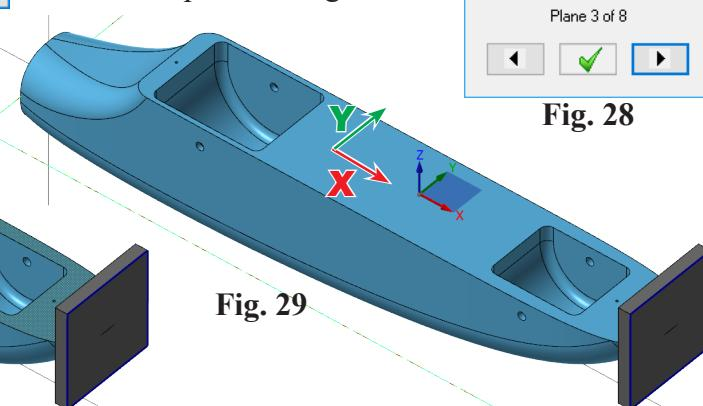

Fig. 29
Step 4. In the Select plane dialog box, Fig. 28 select plane until X axes points to front of body and Y axes to right, Fig. 29. This should be Plane 3. Click OK  in the Select plane dialog box.